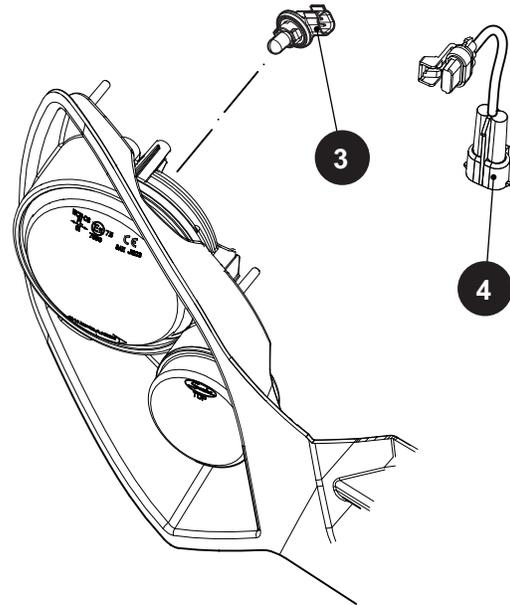

Fig. 7 Headlight Bulb Replacement
1. Find the bulb socket (3) on the rear of light and disconnect the harness (4) from the bulb.
2. Rotate the bulb socket a quarter turn counterclockwise to unlock and remove bulb and socket (Ref. Fig. 7).
3. Insert new bulb, install the socket and bulb assembly, and rotate the socket (3) a quarter turn clockwise to secure.
4. Reconnect the wiring harness (4) to the bulb socket.